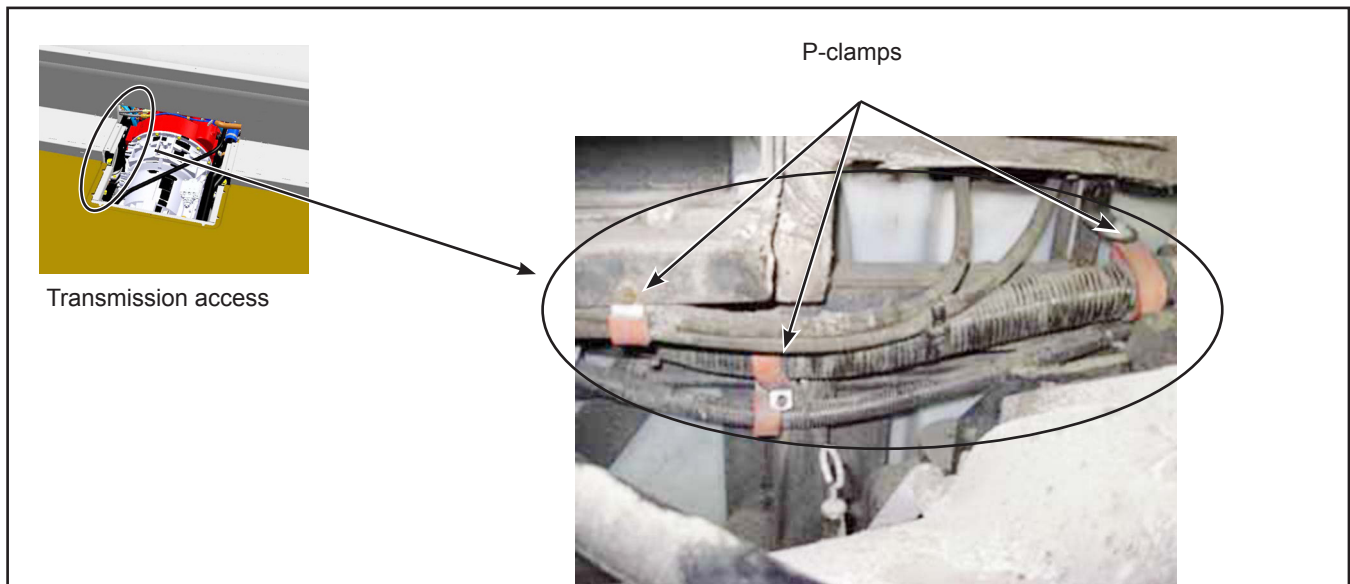

Figure 5 - Electrical Harness
- 1.8. Remove the P-clamps, and move the electrical harness aside. See Figure 5. This step is required to access the engine mounts.